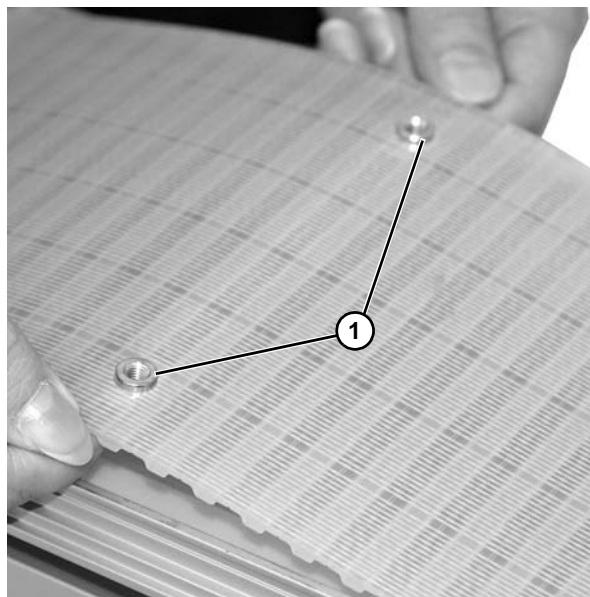

Figure 14
2. Install inserts (**Figure 14, item 1**) from underside of belt.